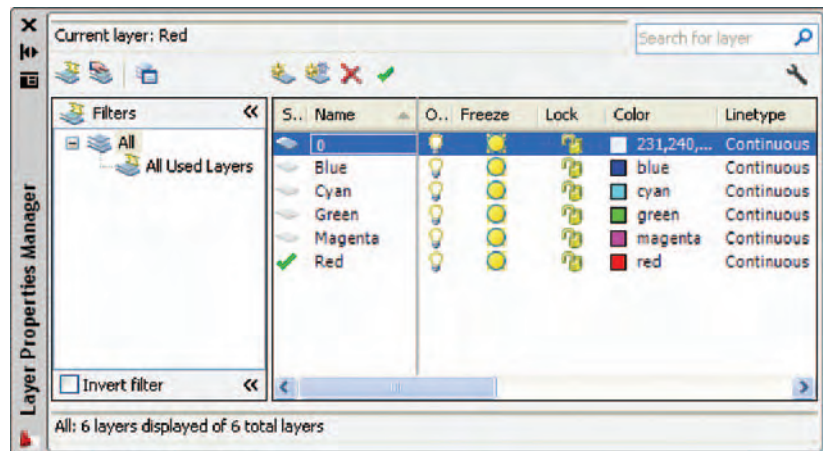

Fig. 15.5 Set up five new layers
8. Set up five layers of different colours. In **my template** these have been named after the colours (Fig. 15.5).